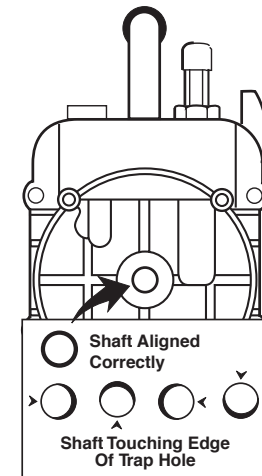

Figure 31
Step 2: Check alignment by rotating shaft with coupler. If shaft moves freely continue assembly. If shaft binds, loosen bolts and turn shaft until shaft rotates freely. Retighten bolts. Shaft should be concentric with shaft hole when viewed from backside (**Figure 31**).